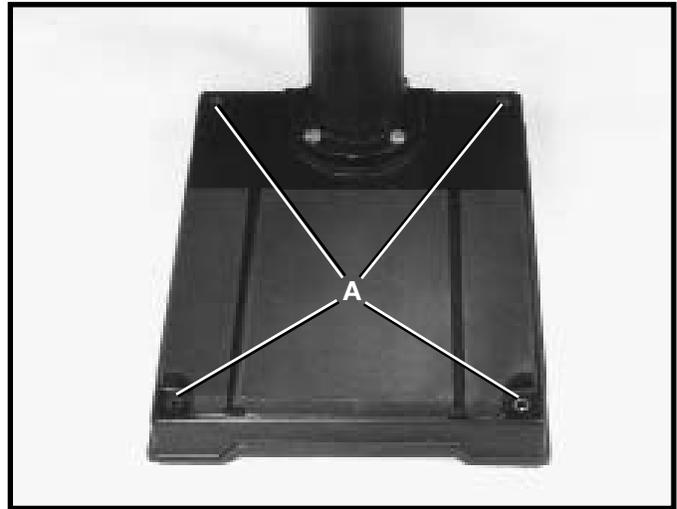
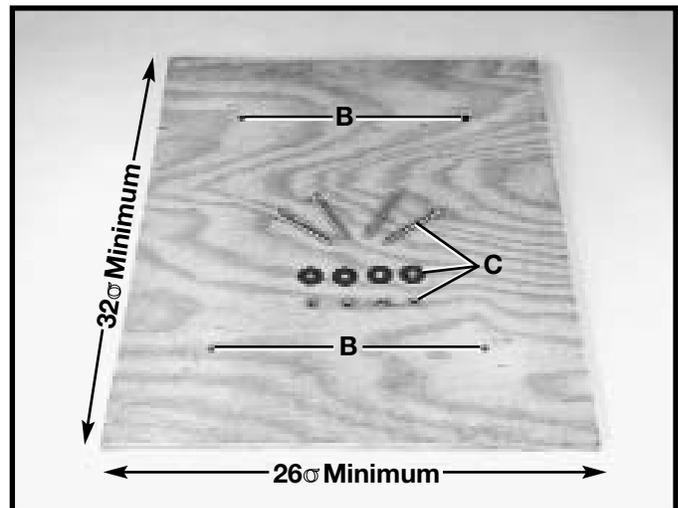

Fig. 16
Fig. 17
If your drill press is to be used in one permanent location, the drill press base must be secured to the supporting surface with fasteners through the four mounting holes, (A) Fig. 16, in the drill press base.
1. Drill four 3/8" diameter holes (B) Fig. 17, corresponding to the mounting holes (A) Fig. 16, of the drill press base in a 26" x 32" minimum size plywood board.
2. Fasten the drill press base to the mounting board using the carriage bolts, nuts, and washers (C) Fig. 17, furnished with your drill press. The carriage bolt heads must be countersunk such that the bolt heads are flush with the bottom surface of the mounting board in order to guarantee the proper stability.